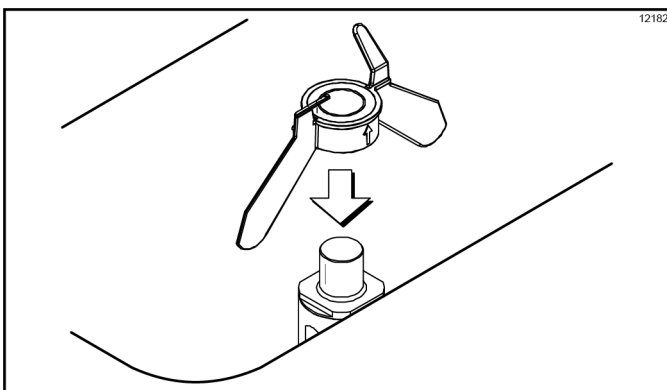

Figure 6-46
11. Place the agitator on the agitator driveshaft housing. (See Figure 6-46.)
(See Figure 6-46.)